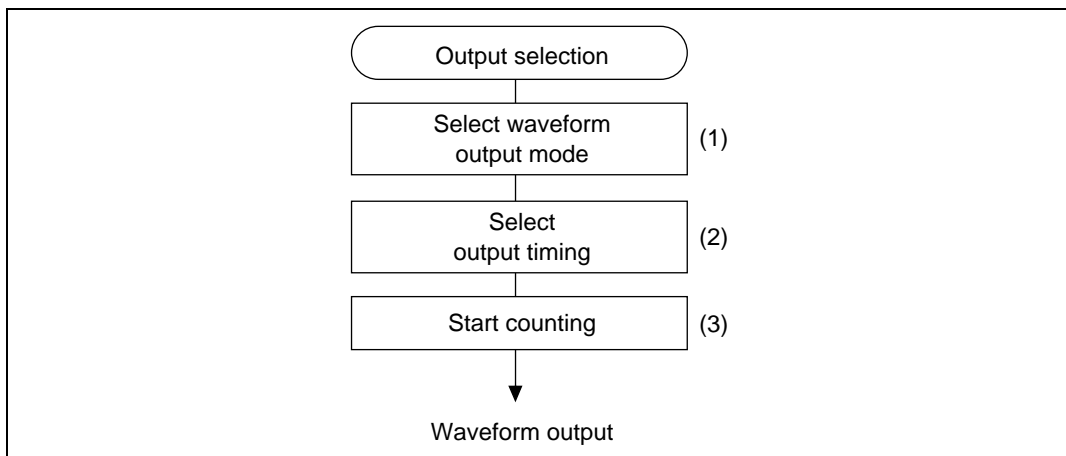

Figure 10.19 Procedure for Selecting Compare Match Waveform Output Mode
- Procedure for selecting the waveform output mode (figure 10.19):